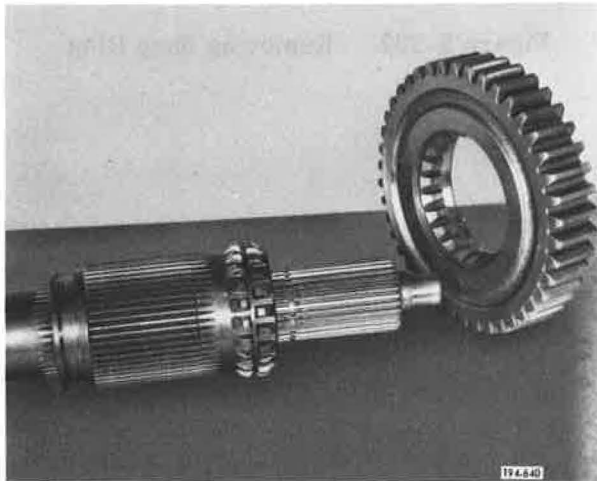

Figure 5-305. Removing Gear
7. Remove third speed gear. See Figure 5-305.